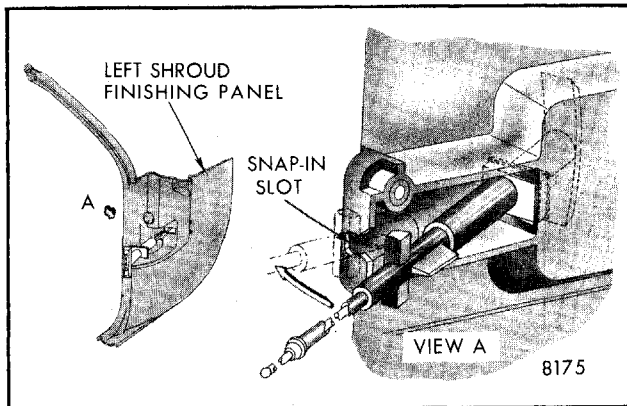

Fig. 4-23-Hood Latch Release Cable (Typical)
4. Disengage control assembly housing from snap-in slot of trim panel (Fig. 4-23 and 4-24) and remove cable assembly from panel, pulling toward pull handle end.